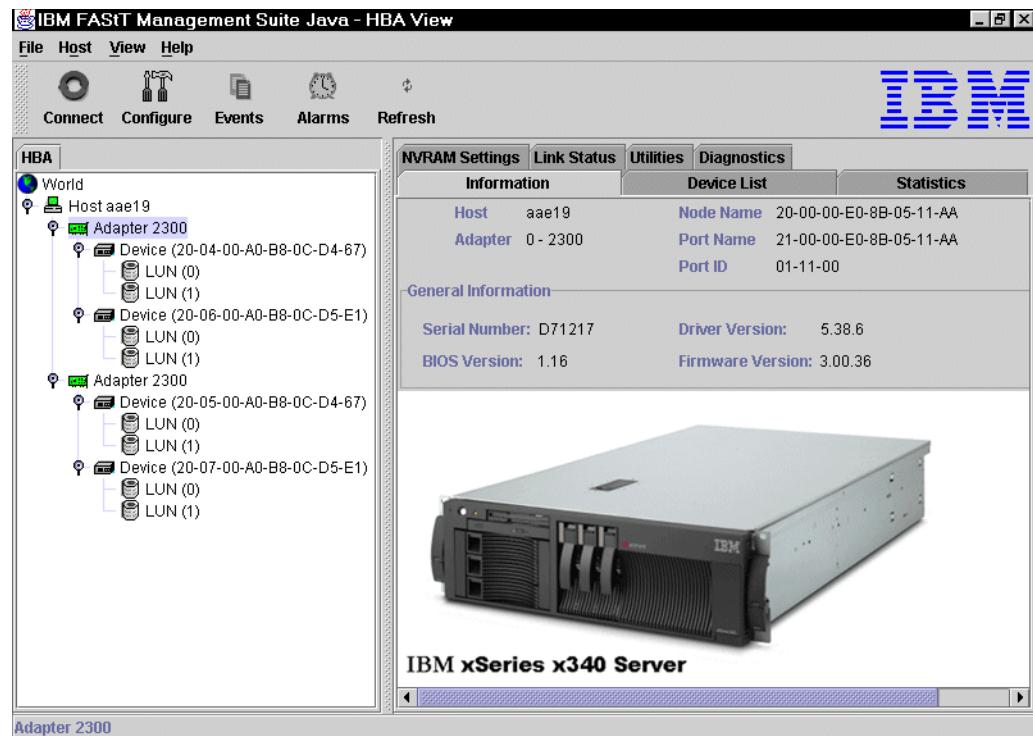

Figure 4-3 FASST MSJ connected to a Linux Host
4. Highlight one of the adapters under the **HBA** tab, and click **Configure**, as shown in Figure 4-3.